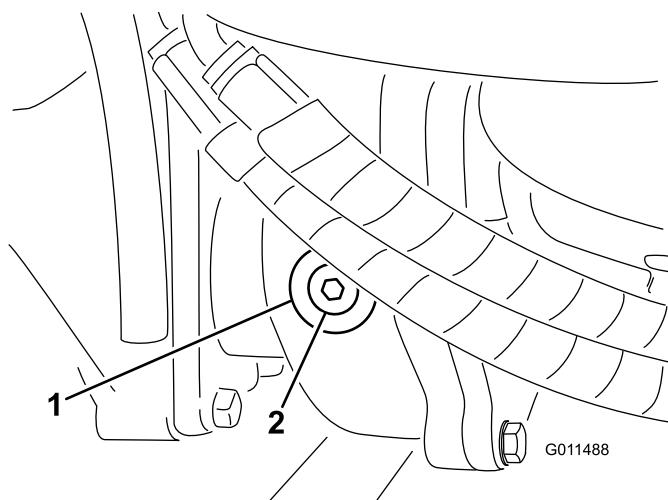

Figure 15
2. Remove the check/fill plug from the left side of the gear box (Figure 15) and make sure that lubricant is up to the bottom of the hole. If the level is low, add enough lubricant to bring the level up to the bottom of the hole.